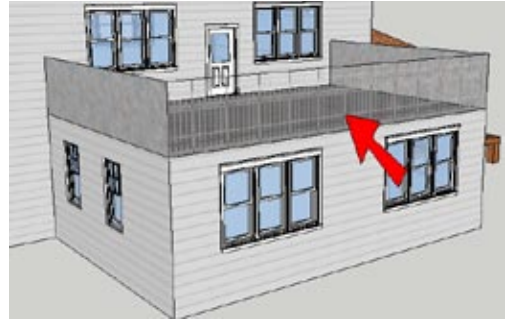

Figure 8-84
5. Paint one of the railing faces with the iron fence. You can see through the face, but the fence is the wrong size (Figure 8-84).